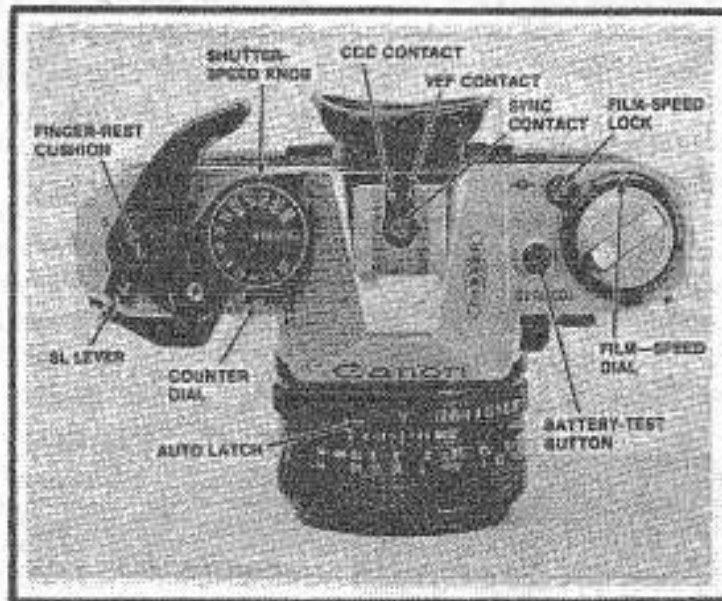

Figure 2
1. **Dedicated flash.** Check by connecting a 4.7K resistor between ground and the CCC hot-shoe contact, Fig. 2. When you push the release button part way, the lightning-flash and *f*/4 LEDs should turn on. The camera should deliver the flash speed of 1/60 regardless of the speed-knob setting (except at bulb). If not, suspect a defective IC2 or poor solder connections to the CCC contact.